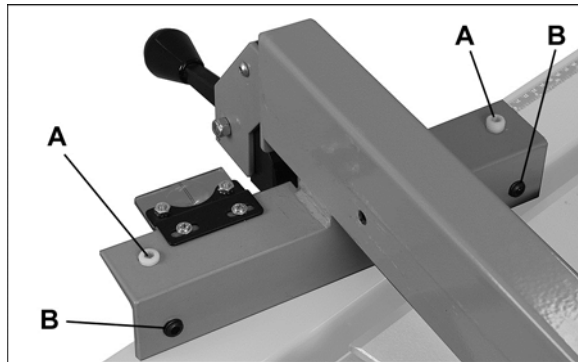

Figure 16
- With a $7/32$ " hex wrench, rotate the two nylon adjustment screws (A, Figure 16) the *same amount* to raise or lower the fence body from the guide tube. Clockwise raises the fence body, counterclockwise lowers.
2. If adjustment is needed, use one of the *back adjustment screws* (B, Figure 16) to turn the fence in line with the miter slot.
The tightness of the fence against the guide tube can be adjusted by rotating the two back screws (B, Figure 16). Rotate the two screws *equally* (clockwise to tighten) with a 5mm hex wrench.